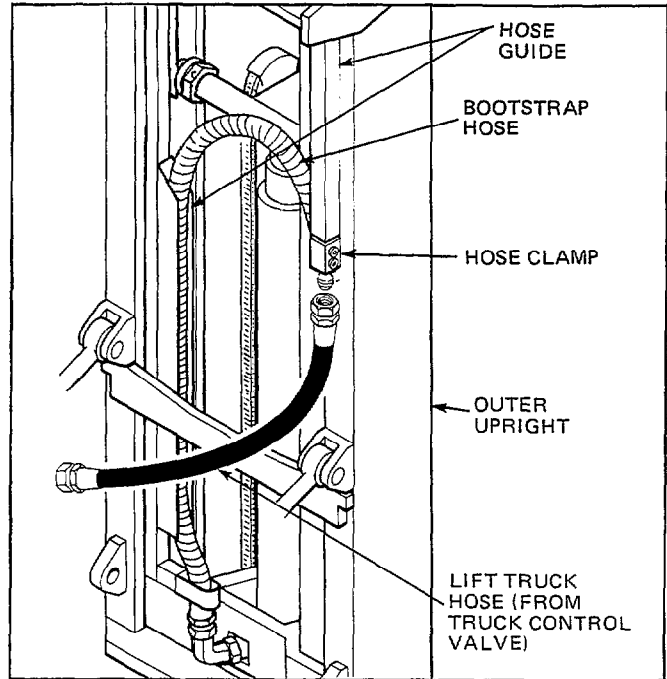

Figure 4. Cylinder and Truck Hose Connection
5. Connect the lift truck hose to the mast bootstrap hose. See Figure 4. The lift truck hose can be SAE 100 R2 or R9. NOTE: Use as few fittings as possible and always use 45° elbows instead of 90° elbows. Keep the hose lengths to a minimum. Avoid sharp bends or pinch points when routing the hose.
- Inspect the bootstrap hose for correct tracking in the hose guides. Adjustments to the hose are made by loosening the hose clamp shown in Figure 4. It may be necessary to loosen the connector fitting between the lift truck hose and bootstrap hose to straighten out the hoses.